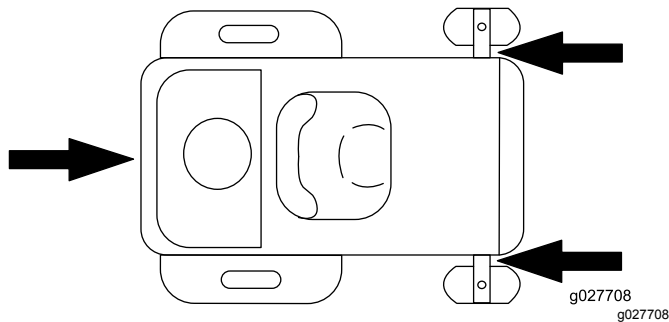

Figure 26
6. Tie down the machine near the front caster wheels and the rear bumper with straps, chains, cable, or ropes (Figure 26). Refer to local regulations for tie-down requirements.